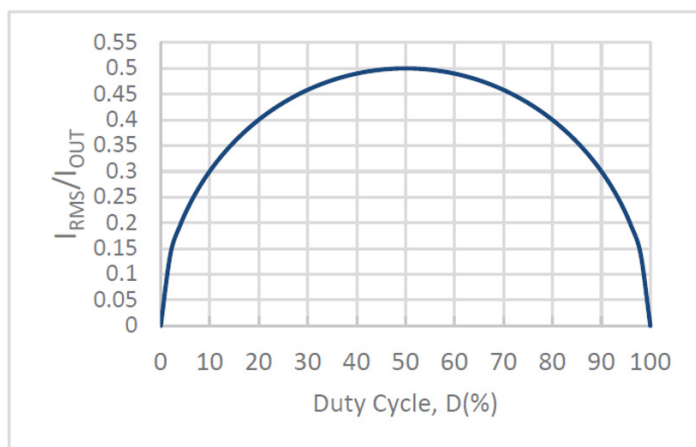

Figure 9: Normalized Input Capacitor Ripple versus Duty Cycle
Figure 9 shows the normalized input capacitor RMS current versus duty cycle. To use this graph, simply find the operational duty cycle (D) on the x-axis and determine the input/output current multiplier on the y-axis. For example, at a 20% duty cycle, the input/output current multiplier is 0.40. Therefore, if the regulator is delivering 1.0 A of steady-state load current, the input capacitor(s) must support 0.40×1.0 A or 0.4 A RMS.